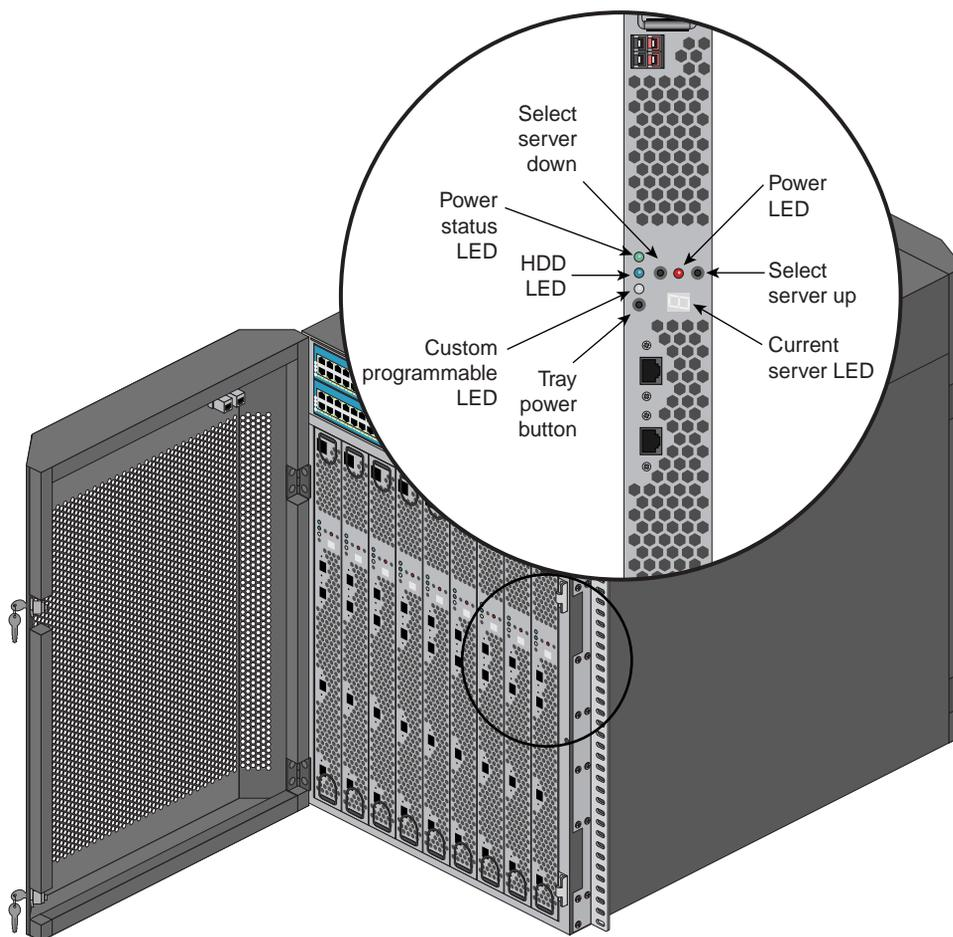

Figure 3-1 Power and Server Select Button Examples on a Compute Tray
- **Power** - This is the main power button, which is used to apply or turn off the power to the compute tray. Pushing this button removes the main power but keeps standby power supplied to the tray, see Figure 3-1.